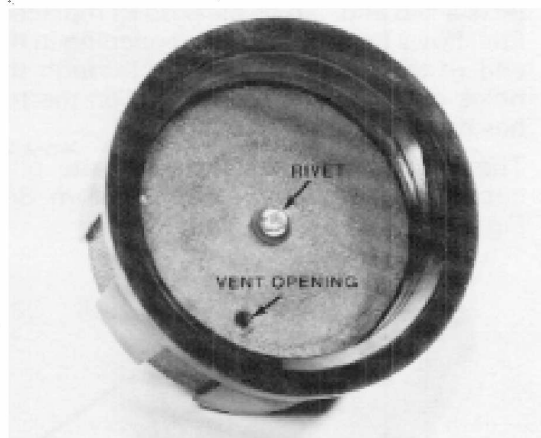

Figure 3-11
1. The gas cap used on the OHV engine is a two piece design, however; no disassembly is recommended. The inner sealing disc is riveted into the plastic cap. See Fig. 3-11.